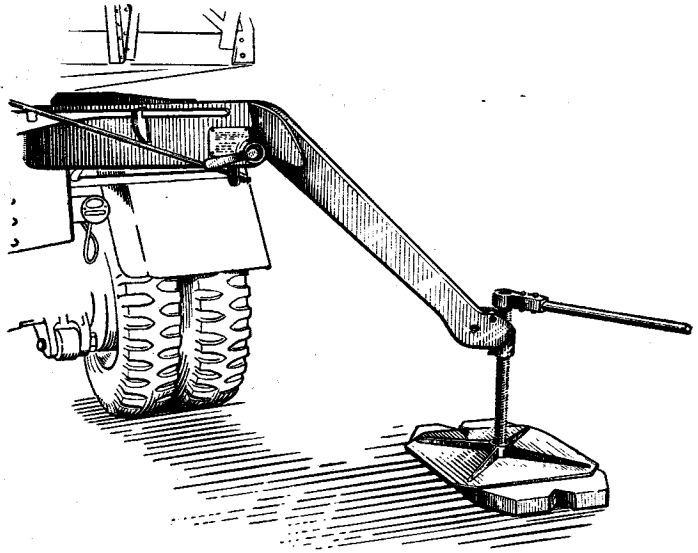

Fig. 22. Jacking with board in position
28. Fig. 21 shows the sequence of operations and fig. 22 shows the jack arm and jacking board in position. Proceed as follows :—